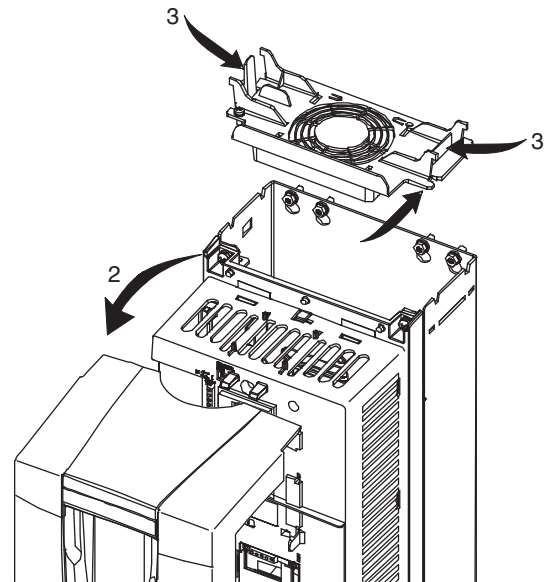

Fig. 40 — Remove Top Cover on ACH550 VFD
3. Press together the retaining clips on the top cover and lift (see Fig. 40).